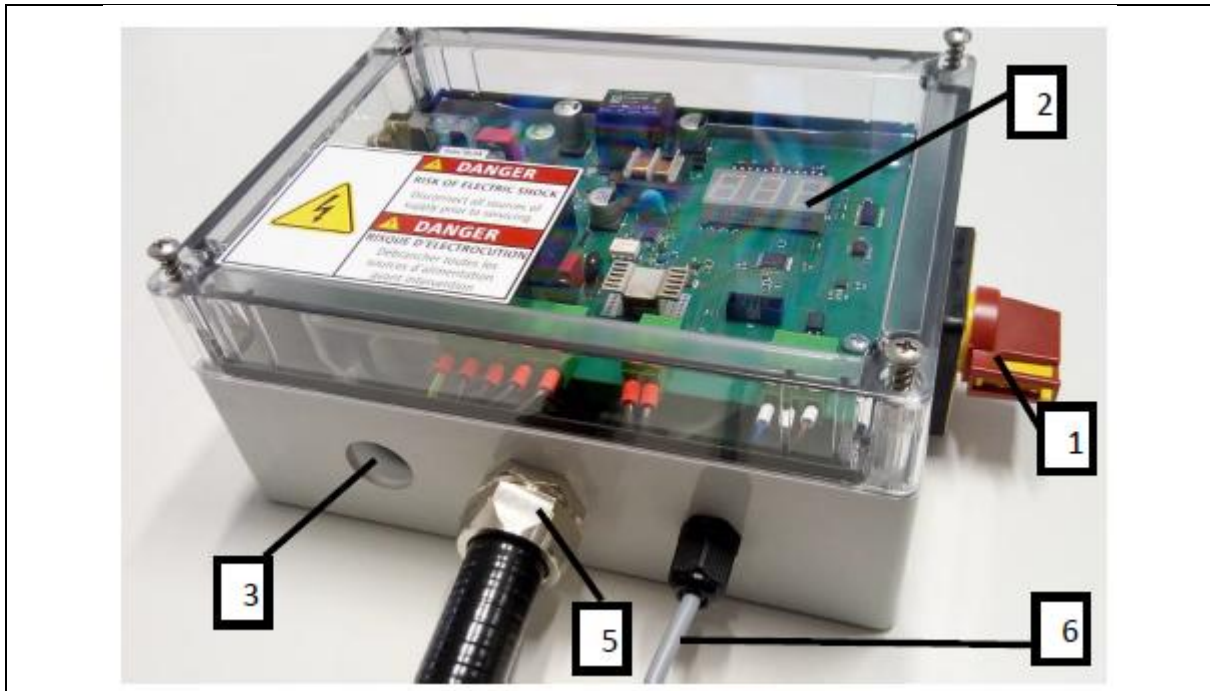

Fig. 8: Control unit - outside
Once the power supply is connected and the main switch is switched on (see item 1, Fig. 8), the machine is ready for operation after around 20 seconds. The machine indicates its readiness for operation by displaying 3 lines in the display. (see Fig. 7)
The motor is activated when the brushes are lifted since the sensor (item 5, Figure 8) records the carriage's rest position.